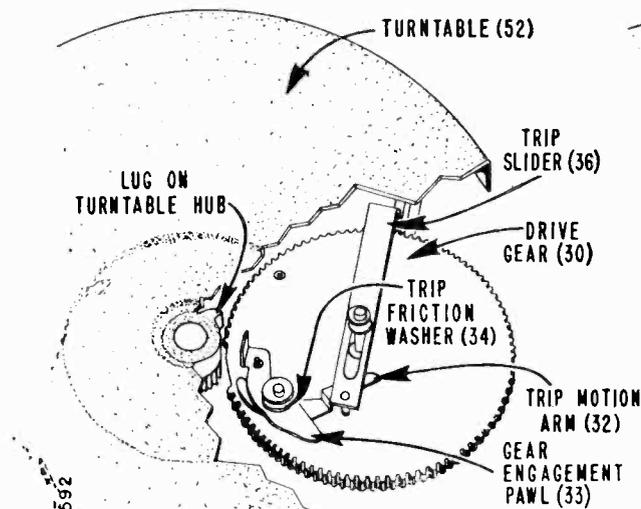

Figure 2A. Drive Gear Position Out of Change Cycle.
This changer employs a velocity trip, which consists primarily of two parts: the trip motion arm (32), and the gear engagement pawl (33). These parts are mounted near the "dead spot" on the drive gear. See Figure 2A.
This record changer uses a velocity type trip, which depends upon a rapid movement of the tone arm toward the centerpost in any area between $2\frac{7}{8}$ " to $7\frac{7}{8}$ " from the center of the record. **This trip requires no adjustment.** However, in order for the changer to trip properly, there must be sufficient friction between the trip motion arm (32) and the gear engagement pawl (33). If the friction is lost, a small amount of lubricant (such as lubriplate #110) should be placed between these parts. If this does not help, it may be necessary to replace the trip friction washer (34). See Figure 2A.